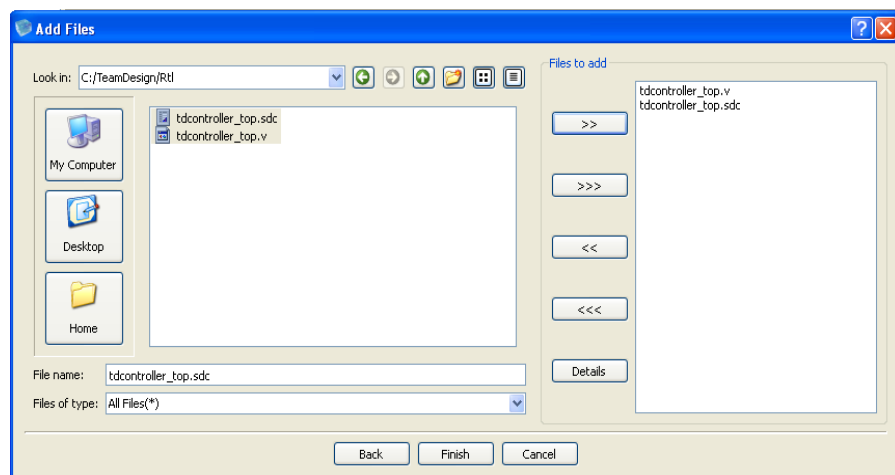

Figure 9-4 : Add RTL Files to top Project
3. Add the top level design file into the project as shown in Figure 9-4. Click on Finish to get back to the iCEcube2 tool.